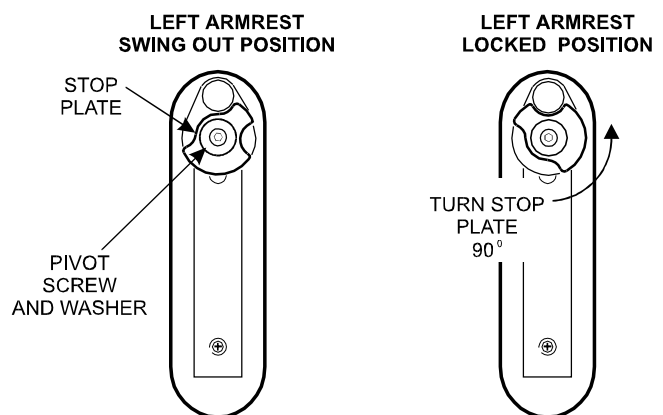

**Figure 14**
**NOTE** ➤ **NOTE:** We recommend disabling the swing out feature on the side of the chair opposite patient access. To lock the armrest and disable the swing out feature, remove the pivot screw and washer on the underside of the armrest and turn the stop plate 90°. Replace the pivot screw and washer and tighten (See Figure 14).